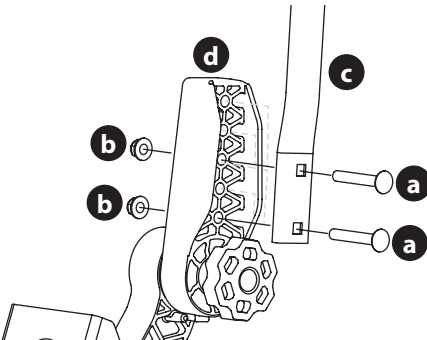

Figure 6
- Remove the two carriage screws (a) and two flange lock nuts (b) that secure the lapbar drive control lever (c) to the upper handle adjuster (d) (Figure 6).
- Move the lapbar drive control lever into one of the three available heights and secure in place with the carriage screws and flange lock nuts (Figure 6).